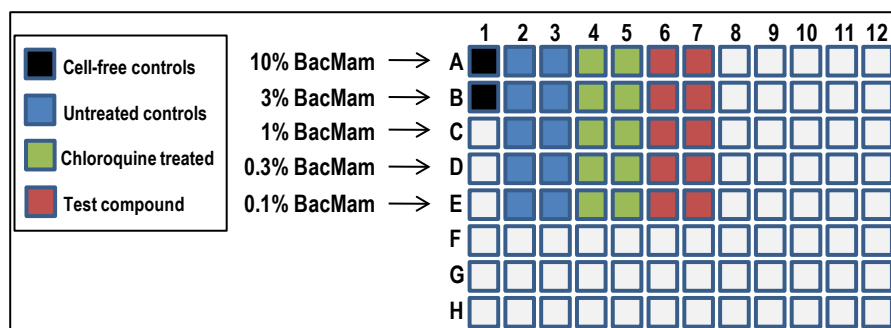

Figure 4 Suggested plate layout for initial BacMam reagent titration assay (two replicates per variable). Scale or modify as desired.
- Plate the volume listed in Table 1 of BacMam reagent /cells to white opaque assay plate as suggested in Figure 4.